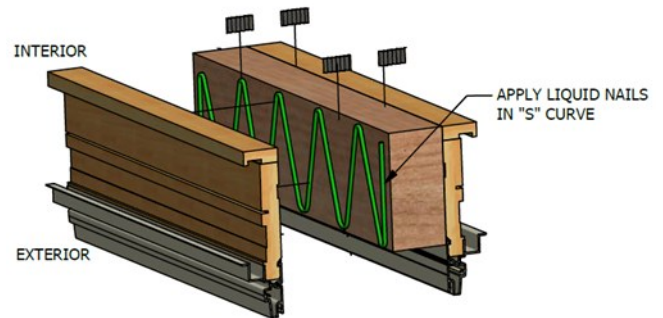

Figure 1
- B. Apply 3/16" bead liquid nails between mulling material and the unit (figure 1), **butter out the liquid nails.**
- D. Apply corrugated staples 3" from ends of mull and 6"- 8" spaced down the length of the mull, securing the mull material to the unit (figure 1).